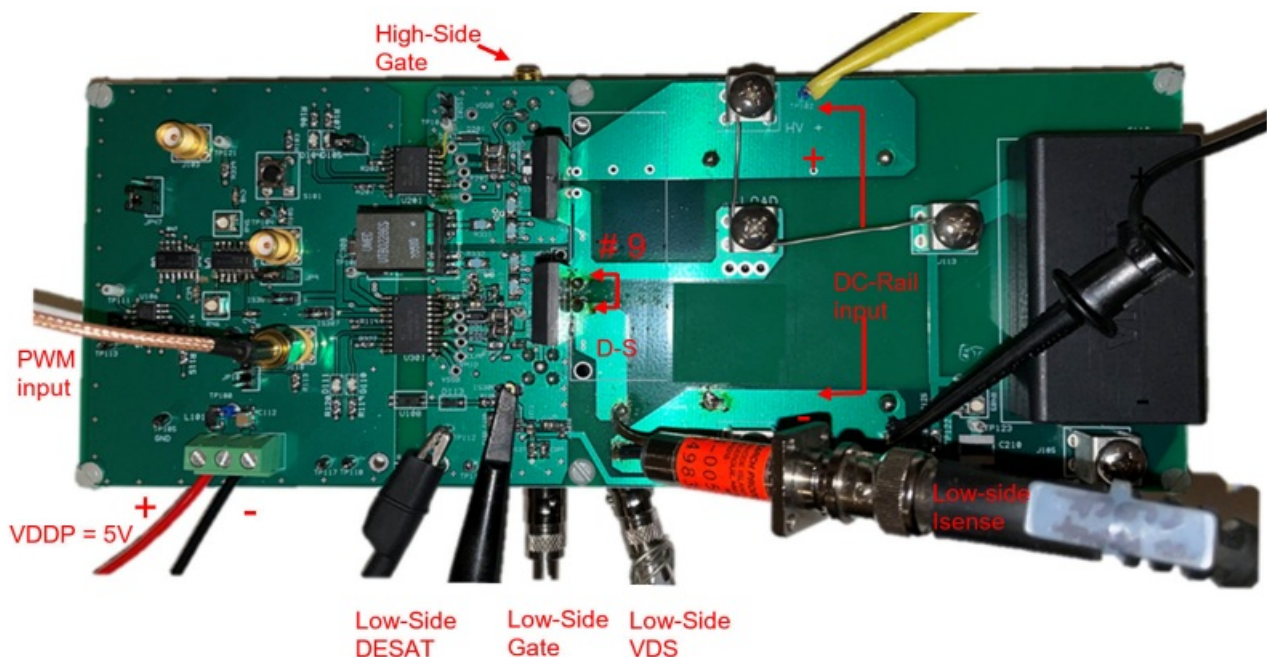

Figure 4.2. Si828x-HB-EVB Probe Connections DESAT Shorted Circuit Test
- Solder a wire across the D-S terminals of the low-side switching device as indicated by Item #9 of Figure 4.2 Si828x-HB- EVB Probe Connections DESAT Shorted Circuit Test on page 11.